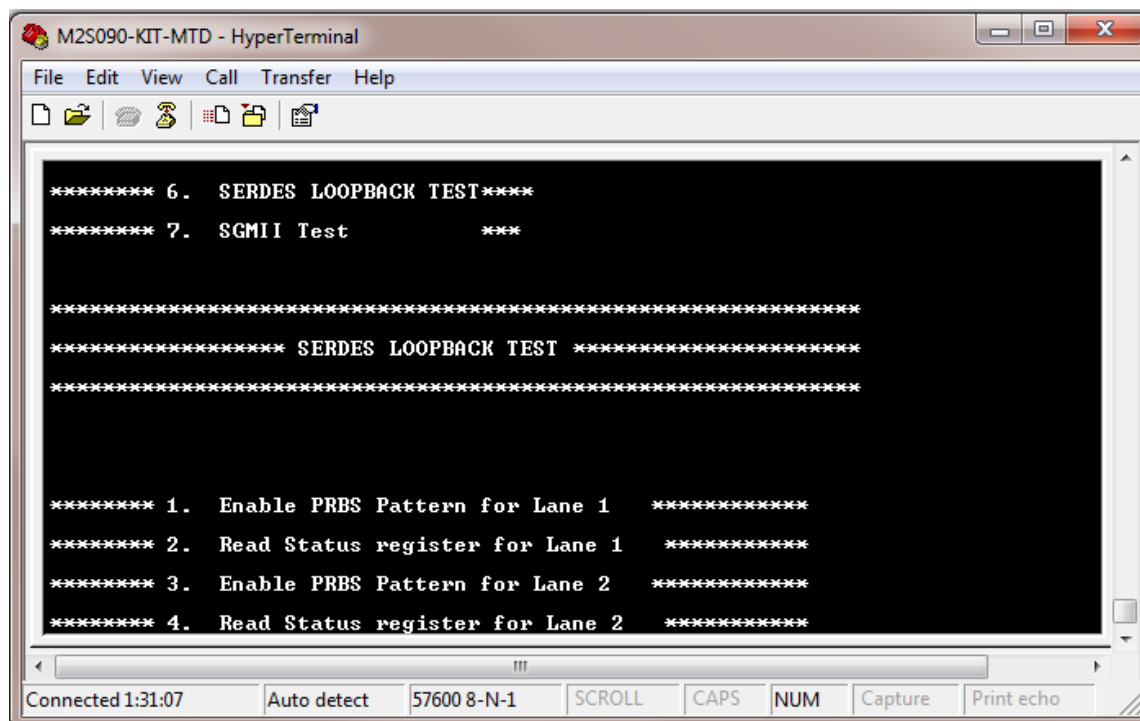

Figure 45 SERDES Loopback Test
15. Press **6** to run the SERDES loopback test. Refer to Figure 45.